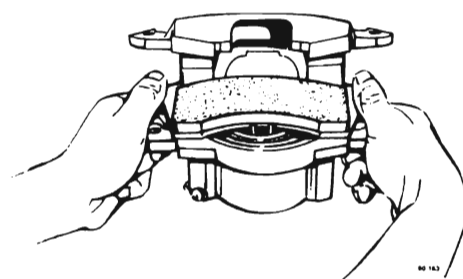

Figure 50-39--Installing Inboard Shoe
4. Position the inboard shoe and lining assembly in the caliper so that the bottom edge of the metal shoe contacts the piston and the two spring ends contact the shoe centrally. Adjust the spring, if necessary, so that the spring ends contact the shoe centrally. The shoe will be at an angle, with the top edge away from the piston. See Figure 50-39. Press down on the ears at the top of the shoe until the shoe lays down, flat against the piston. When properly seated, the ends of the spring will not extend more than 0.100 inch beyond the metal part of the shoe.